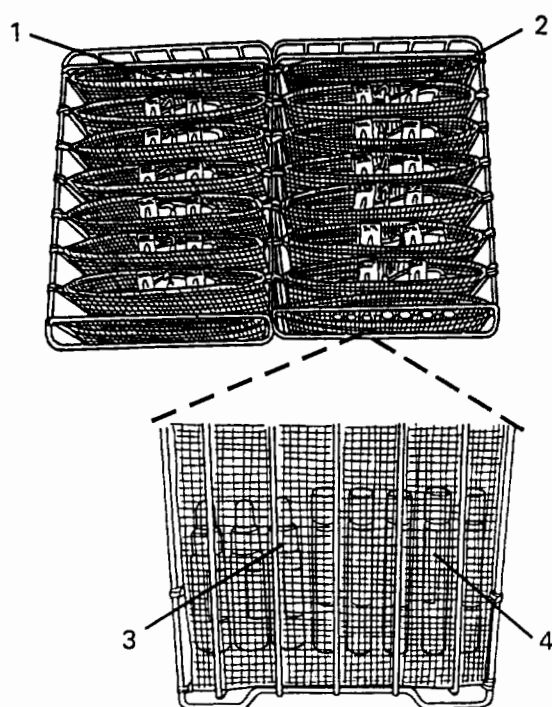

Figure 3-20 — Packing Sequence
334. **13 Unit of bloods.** Starting the left side, insert one unit of blood in each pocket (1) from the hinge, on the right side start packing units of blood from the second pocket (2) (Fig 3-20).
335. Pack the vials (3) and plasma bottles (4) in the end pockets (2) (Fig 3-20).